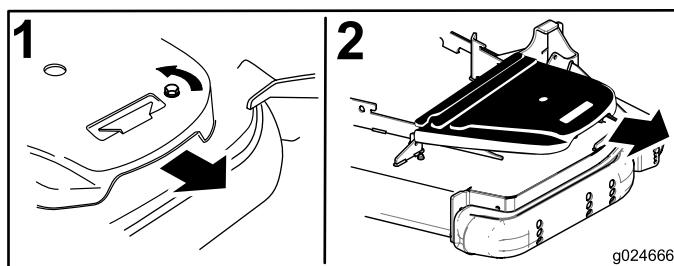

Figure 70
5. Remove the plastic belt cover (Figure 70).
4. Remove the belt covers (Figure 70).